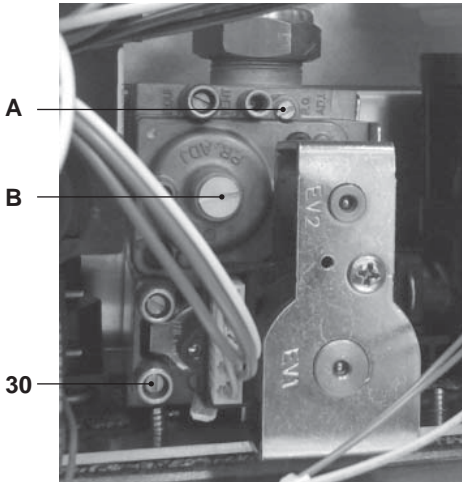

Fig. 7.9
- When the boiler is switched off (out of order), check the supply pressure by using the 30 point in Fig. 7.9 and compare the value read with that reported on the Gas supply pressure table in the "Technical Data" section (pag. 26 Activ A 25C, pag. 29 Activ A 30C and pag. 32 Activ A 35C).
- Close well the pressure point 30 in Fig. 7.9.